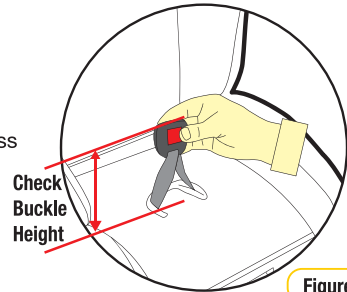

Figure 1
**Step 1:** Pull adjuster and strap to extend the location of the adjuster assembly (refer Figure 1).
**Step 1:** Lift the buckle and determine the required buckle height (refer Figure 1).